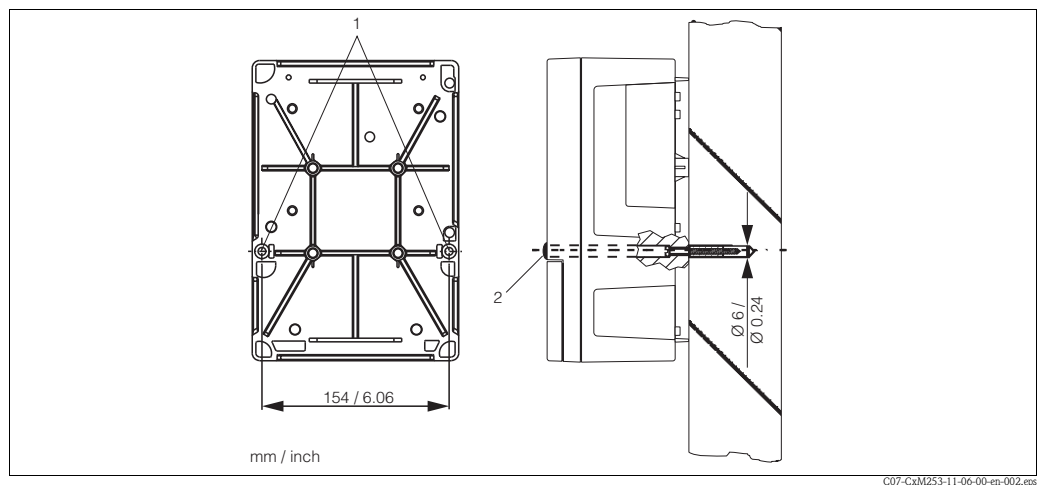

Fig. 7: Field instrument wall mounting
1. Drill the bores as shown in Fig. 7 .
2. Drive the two fixing screws through the securing bores (1) from the front.
4. Cover the bores with plastic caps (2).